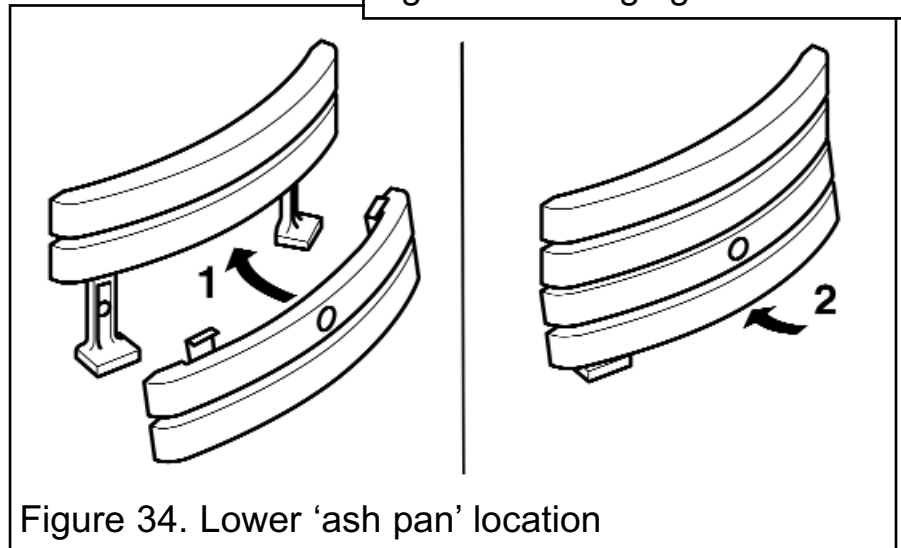

Figure 34. Lower 'ash pan' location
4. The lower 'ash pan' casting should be located as in figure 34.